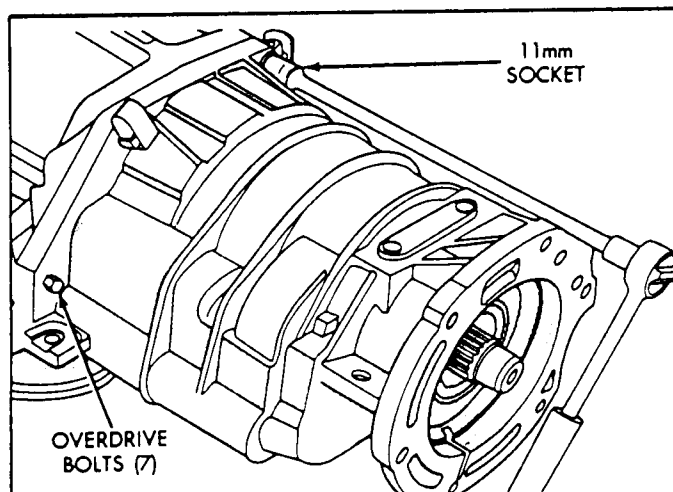

Figure 45
69. Apply Lock-Tite 242 to the threads of overdrive bolts, install and torque to 25 ft.lbs (See Figure 45).